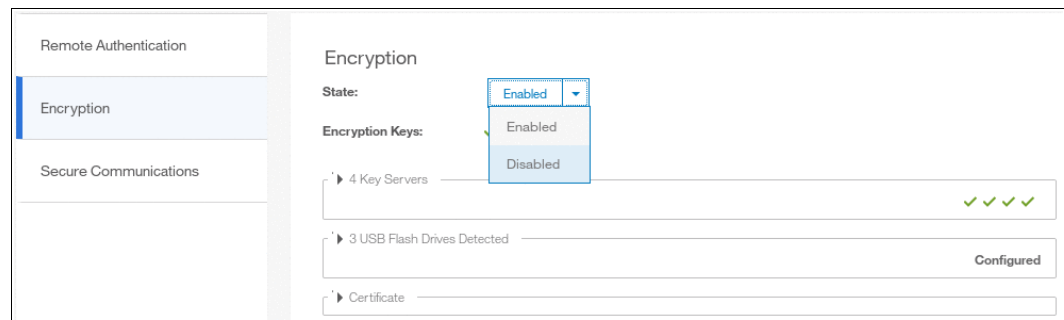

Figure 13-83 Disabling encryption on a system with both providers
1. Click **Settings** → **Security** → **Encryption** and click **Enabled**. If no encrypted objects exist, then a drop-down menu is displayed. Click **Disabled** to disable encryption on the system. Figure 13-83 shows an example for a system with both encryption key providers configured.